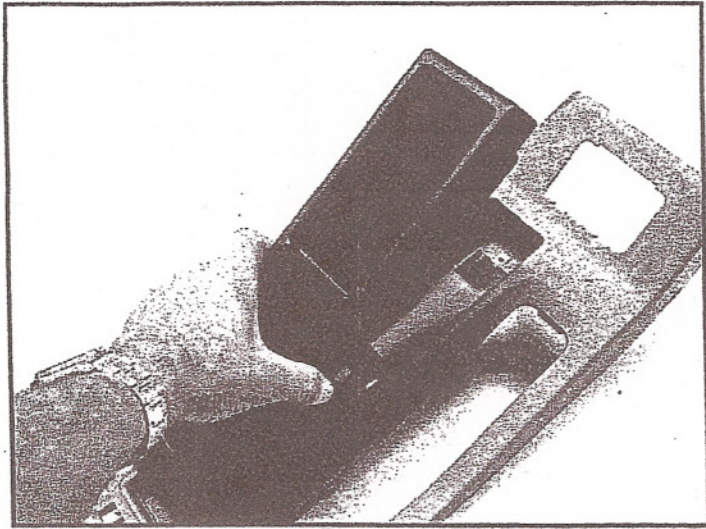

Figure 4
2. Install the beverage holder as shown in Figure 4. Ensure the small tab on the front of the beverage holder engages the opening in the console. To do this insert the front of the beverage holder first and move as far forward on the console as possible. Then lower the rear of the beverage holder.